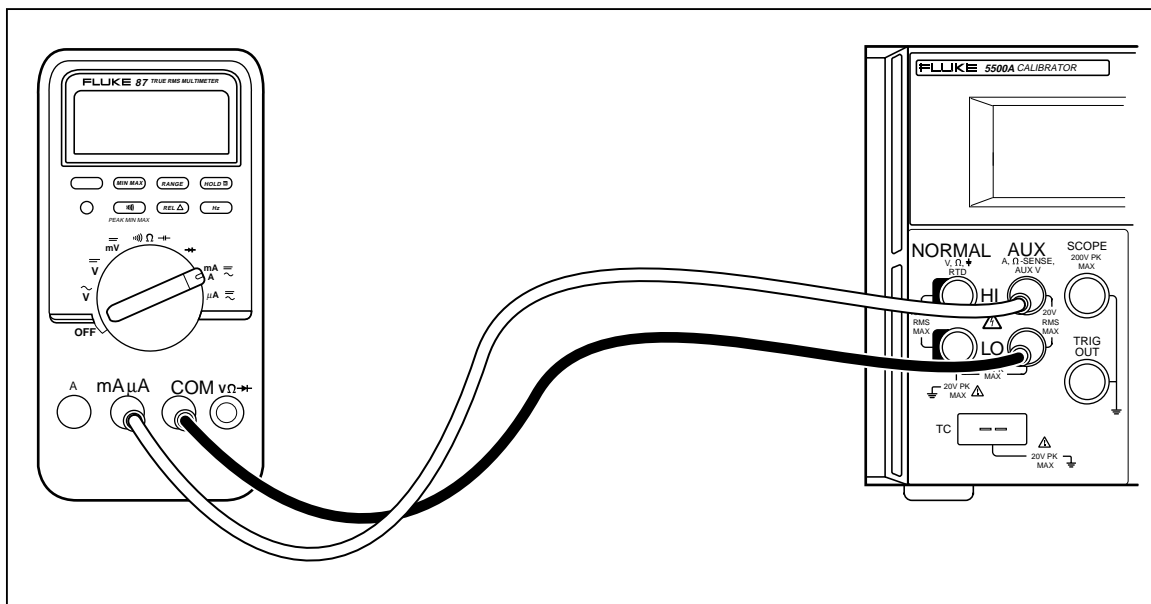

Figure 4-16. Cable Connections for Testing an 80 Series Current Function
- b. Verify that the calibrator is in standby and connect the DMM as shown in Figure 4-16.